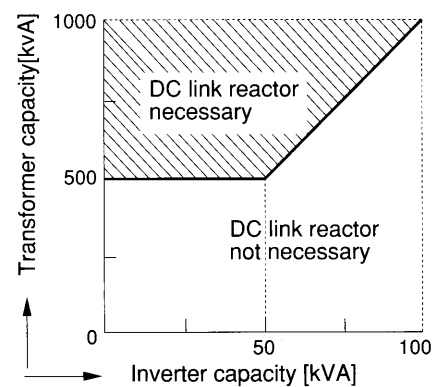

Fig.6-2-5 Application DC link reactor(1)
- Capacity ratio of the power supply transformer to the inverter is as shown in Fig. 6-2-5